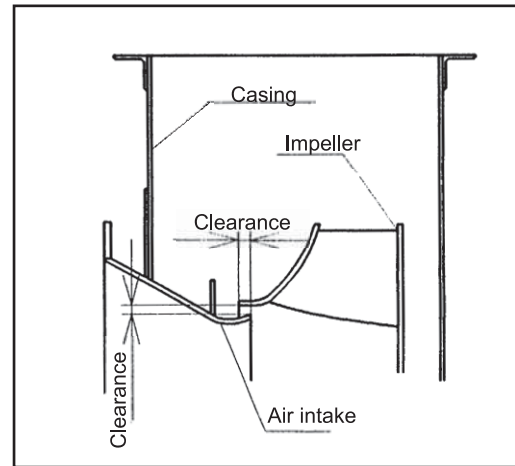

Figure 4 - Internal gap of the blower
- (6) If the casing is separated from the bearing and the base, set the height and the position in consideration of the clearance (See Figure 4.) between the rotating body and the casing. Adjust the clearance between the impeller and the air intake and the clearance between the main shaft and the casing (shaft seal) so that they are as even as possible in terms of circumference. However, if the fan handles a gas at a temperature exceeding 200°C, adjust the height in consideration of thermal expansion of the casing center. Calculate the expansion of the center height by assuming that it expands about 1 mm per meter when temperature increases by 100°C.